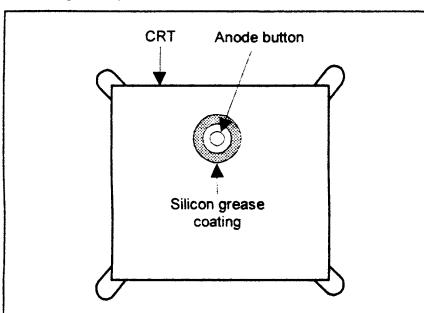

Fig. 7
- Subsequent to replacement of the CRT and HV transformer or repair of the anode cap, etc. by dismantling them, be sure to coat silicon grease for electrical insulation as shown in Fig.7.
- Wipe around the anode button with clean and dry cloth. (Fig.7)